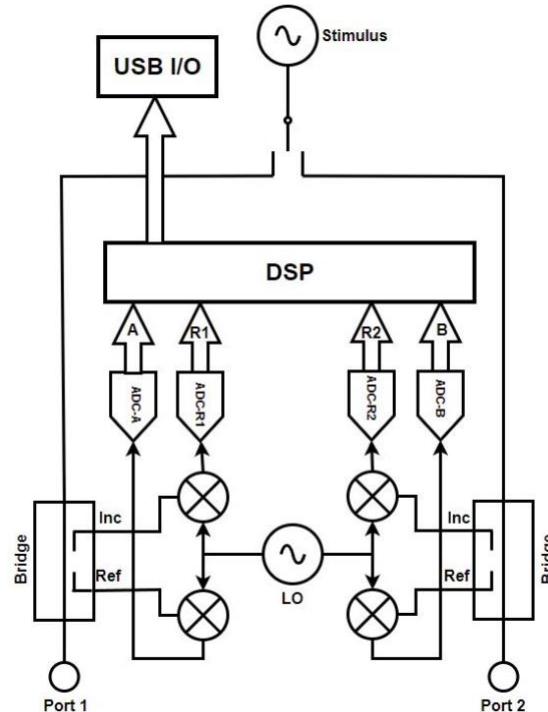

Figure 1 - VNA Functional Block Diagram
Figure 1 shows a functional block diagram of a 2-port VNA. The bridges on Ports 1 and 2 are the devices which separate the forward and reverse waves; those leaving the port and those entering it simultaneously. The forward port is labeled "inc" for incident and the reverse port is labeled "ref" for reflected. This bridge could be a dual directional coupler, or a Wheatstone bridge [1]. The signal amplitude on the two ports is proportional to the forward and reverse signals but attenuated by 20 or 30 dB so as not to steal too much energy. The bridge is the heart of the VNA, that which makes it different from every other type of RF test equipment.
A summary of the Vector Network Analyzer working principle is as follows: The RF stimulus source is shown at the top of Figure 1, which can switch back and forth to emit signals from either Port 1 or Port 2. The stimulus frequencies can be quite high in frequency, so a second frequency source, the LO, tracks along with it at a constant offset. Signals from the incident or reflection ports of the two bridges are mixed down with this LO by the four mixers to create a constant Intermediate Frequency (IF). This IF frequency might be somewhere between 1 and 15 MHz depending on VNA model. Higher IF frequencies are required if the VNA supports higher IF bandwidth measurements such as 2 MHz for the CMT Cobalt series. Of course, the higher IF frequency requires a higher speed digitizer (ADC) which increases cost.